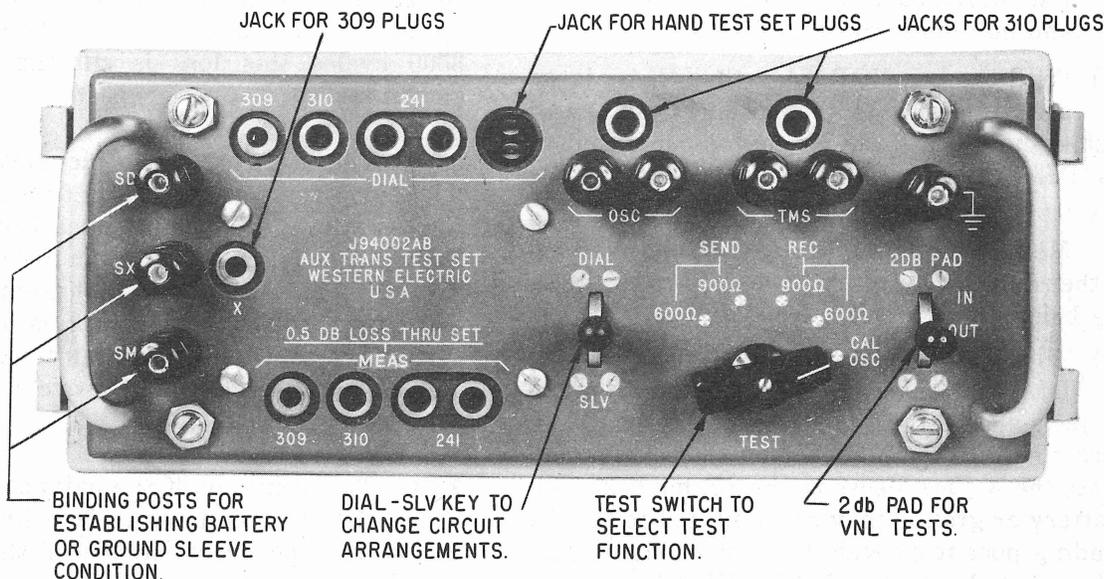

Fig. 4 - 2AB Auxiliary Transmission Test Set - Face View
2.02 The test set controls are illustrated in Fig. 4. The oscillator and measuring sets are connected to the OSC and TMS binding posts or jacks with test leads or patch cords.